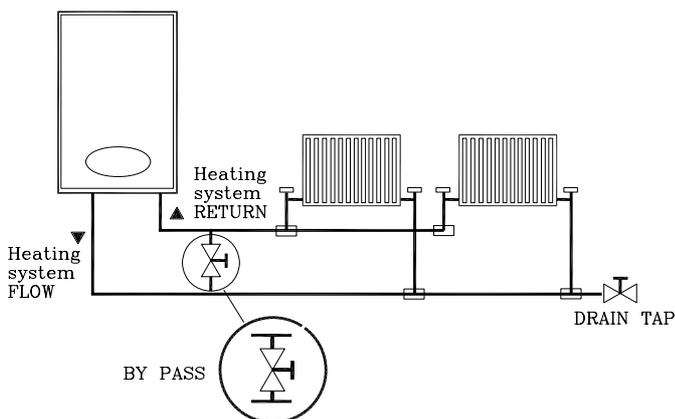

Fig.6
The terminal should be located where dispersal of combustion products is not impeded and with due regard for the damage or discolouration that might occur to building products in the vicinity (see fig. 6).
Minimum acceptable spacing from the terminal to obstructions and ventnation opening are specified in Fig. 6.
**Therefore a by-pass must be fitted to the system (15 mm min.) (Fig. 6).**